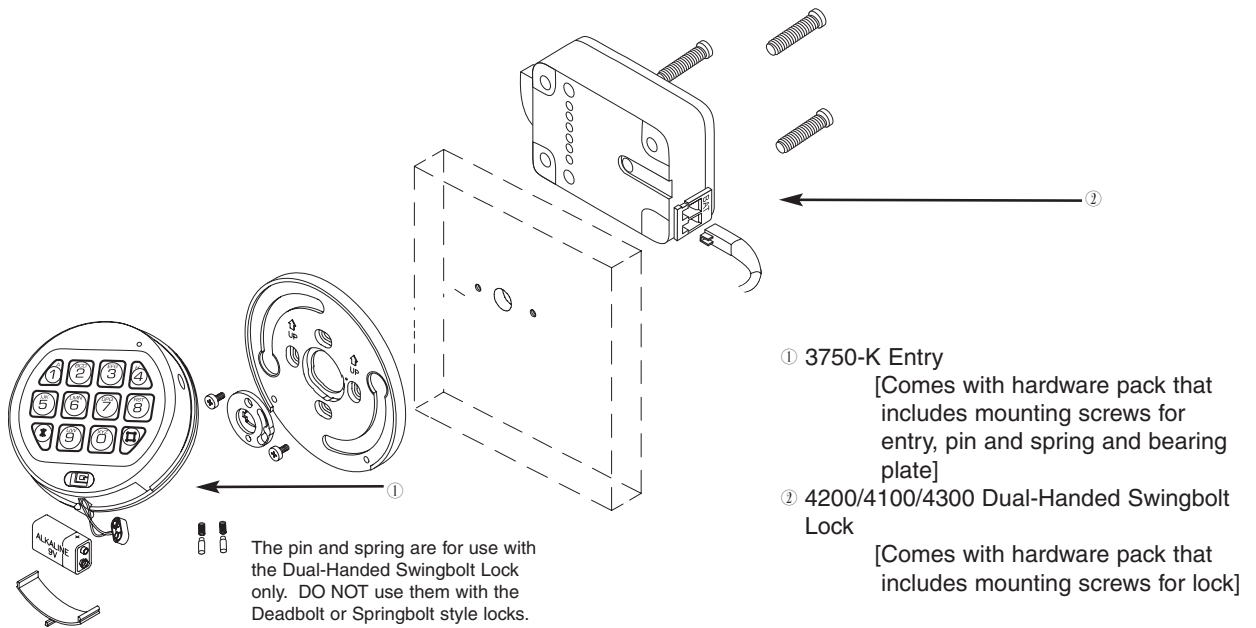

Figure 1
- ① Drill mounting holes for US 8-32 or M4 screws and a cable hole, see *Figure 1*.